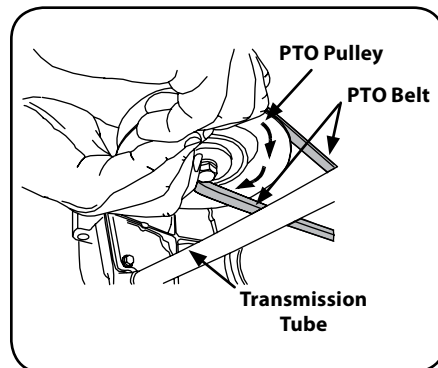

Figure 4-16
- d. While still holding the belt downward, continue turning the PTO pulley until the belt is rolled off the pulley. Refer to Figure 4-16.
11. Pull the right side of the belt rearward and place the narrow V side of the belt into the PTO pulley. See Figure 4-16.
12. While holding the belt and pulley together, rotate the pulley to the left (See Figure 4-16). Continue holding and rotating the pulley and belt until the belt is fully rolled into the PTO pulley.